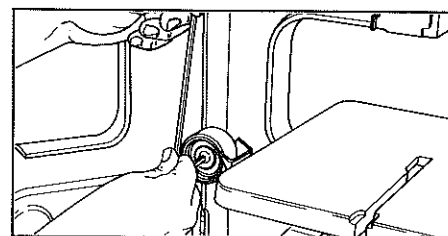

Figure 21. Loosen the screw to remove the idler wheel assembly.
- a. Remove the left screw (14) with a 5/32" Allen wrench. (See Figure 21.)